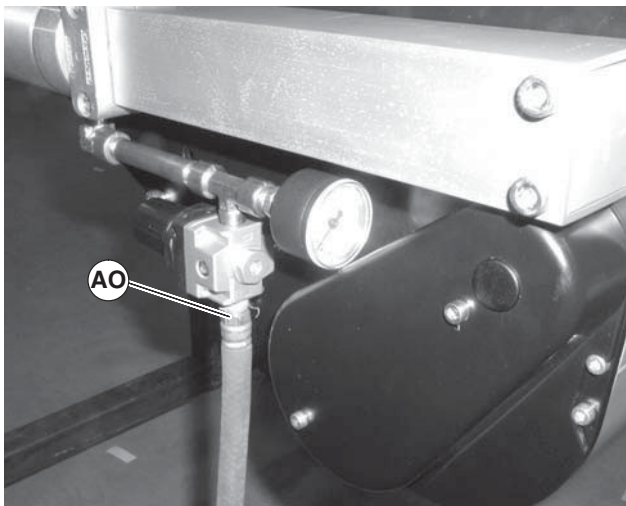

Figure 68
1. Remove air supply and remove hose (Figure 68, item AO) from center drive.